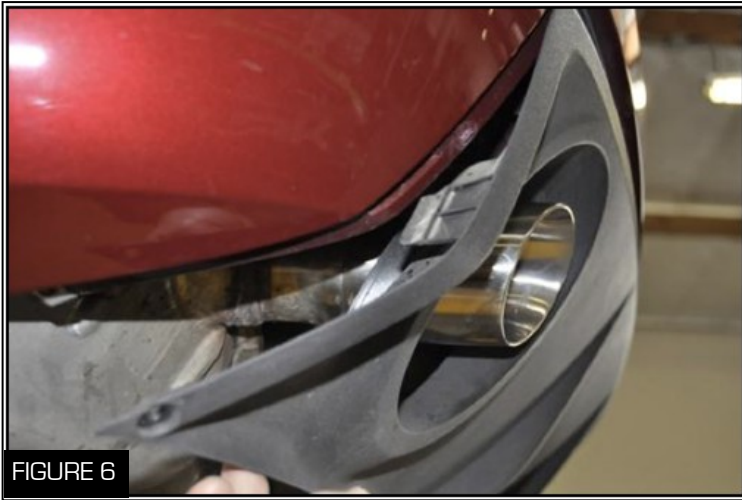

FIGURE 6
9. Loosen the valence and disconnect the bottom portion from the bumper (Figure 6)